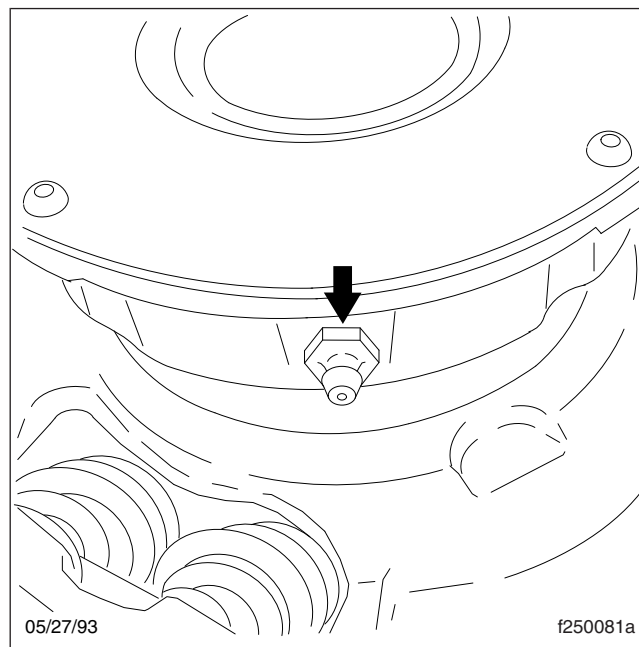

Fig. 1, Release Bearing Grease Fitting
3. Wipe any dirt away from the grease fitting. See Fig. 1. Use a pressure-type grease gun equipped with the recommended grease, and lubricate the bearing until excess grease purges from the rear of the release bearing (toward the transmission).